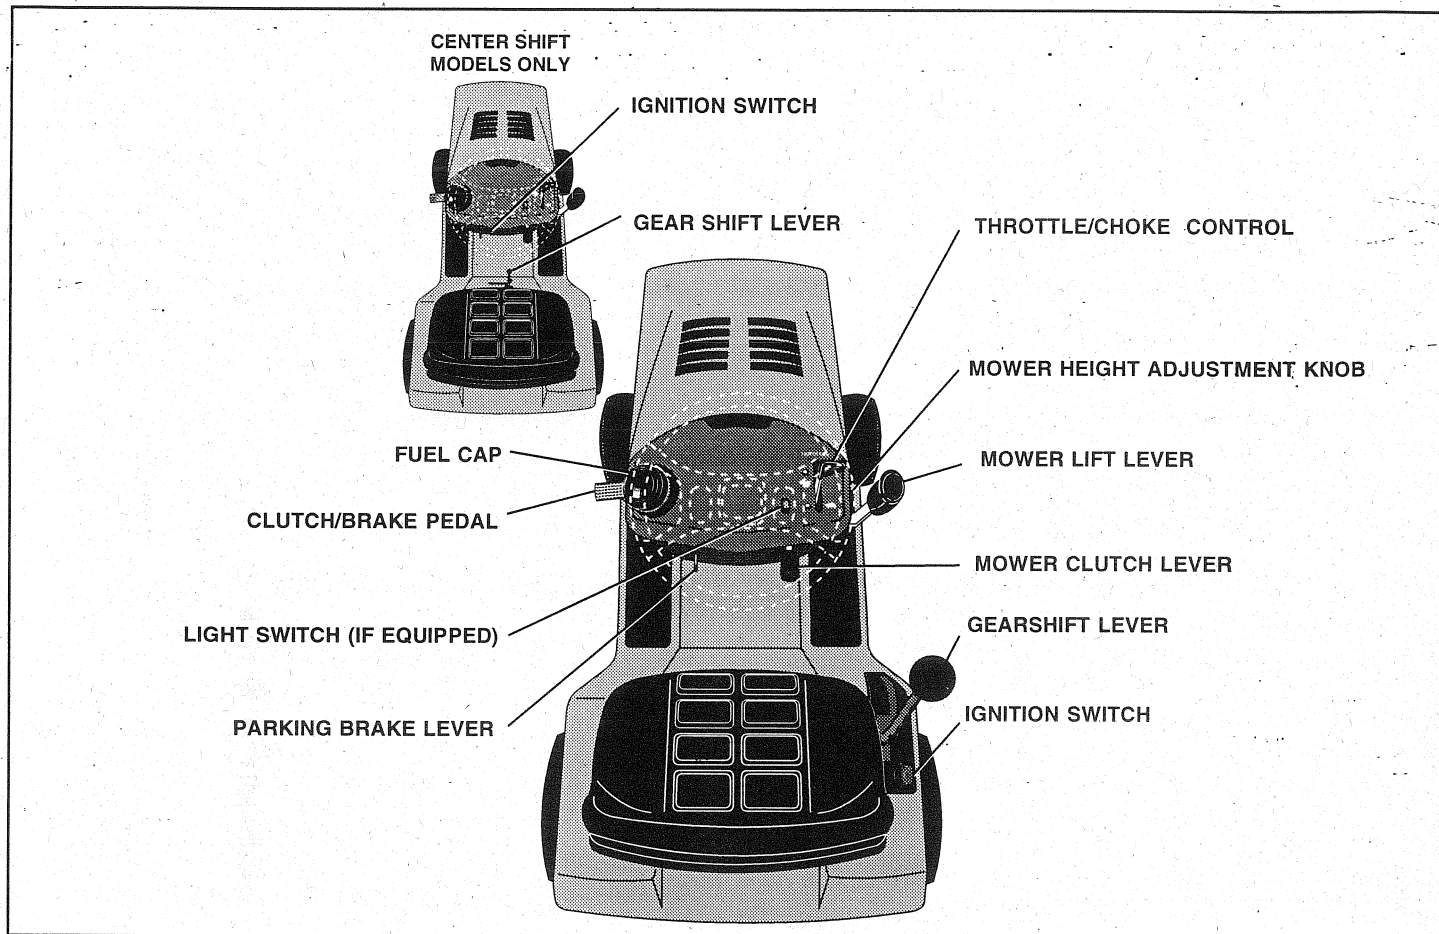

FIG. 7
- Slide seat until a comfortable position is reached which allows you to press clutch/brake pedal all the way down (See Fig. 7).
## TO START ENGINE (See Fig. 7)